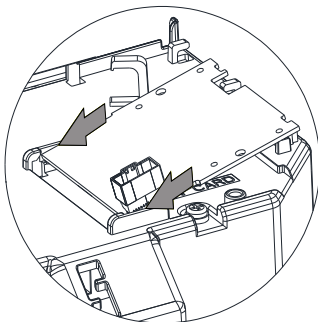

Figure 8-6
3. Engage the lower end of the option card with the guiding slot, as shown in Figure 8-6.